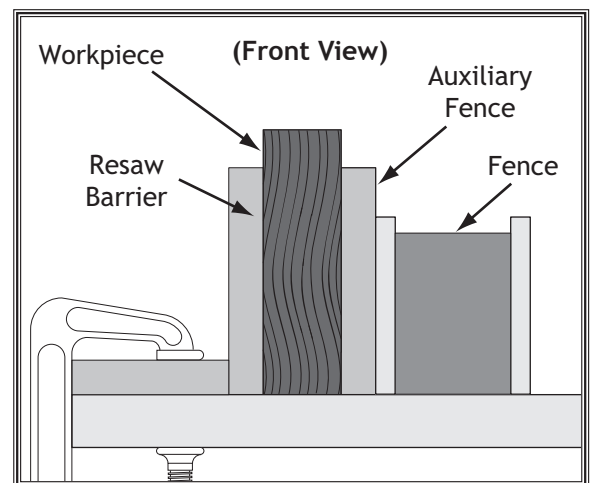

Figure 61. Example illustration of a resaw setup.
5. Place the workpiece against the auxiliary fence and slide the resaw barrier against the workpiece, as shown in **Figure 61**. Now clamp the resaw barrier to the top of the table saw at both ends.